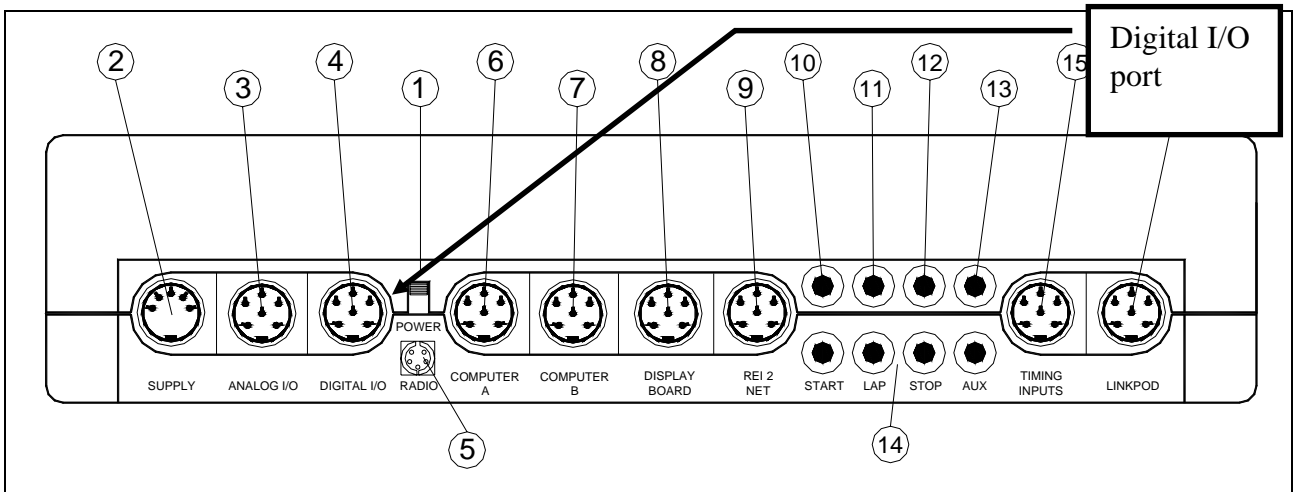

Fig. 1 – Back of REI2 stopwatch (from User Manual)
The μ Sem signals light must be connected to the Digital I/O port on the back of REI2 (see ref. 4 in Fig. 1) using the dedicated cable \$CAB097.